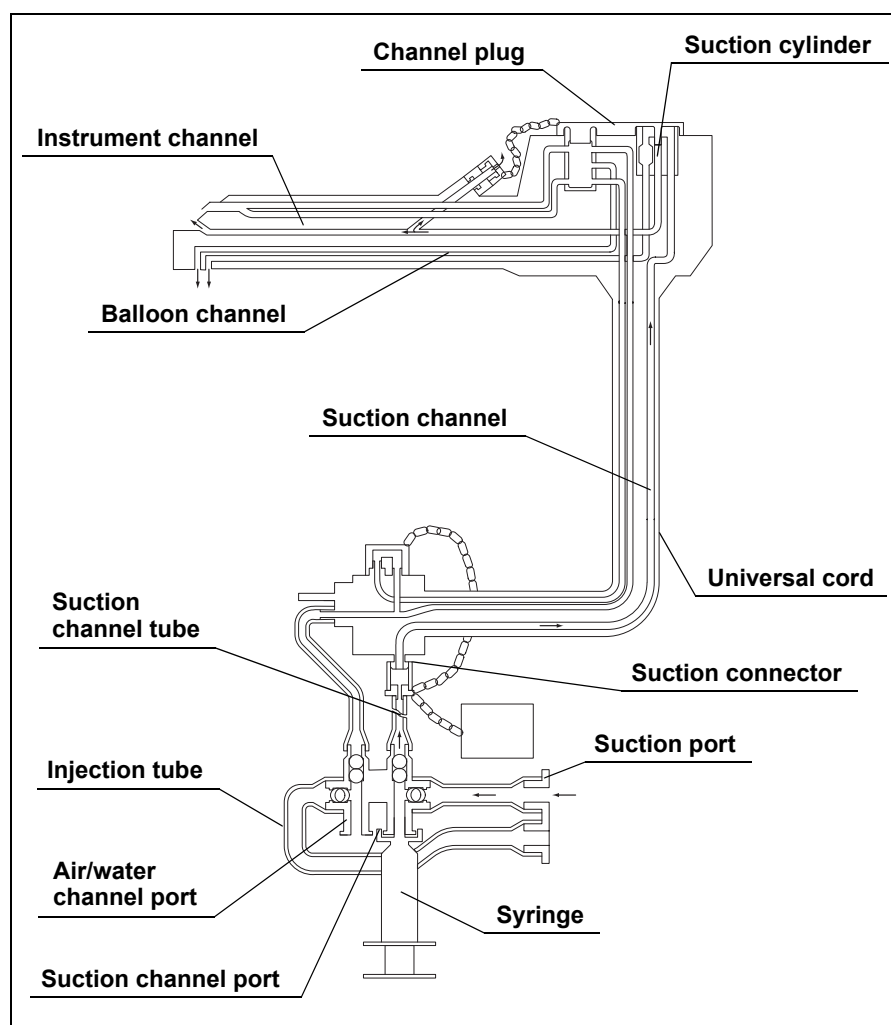

Figure 7.40
1. Attach the channel plug, the cleaning adapter for instrument channel port and the injection tube to the endoscope. Place the suction port in clean water. Attach the channel plug's biopsy valve cap to the cleaning adapter for instrument channel port (see Figure 7.40).